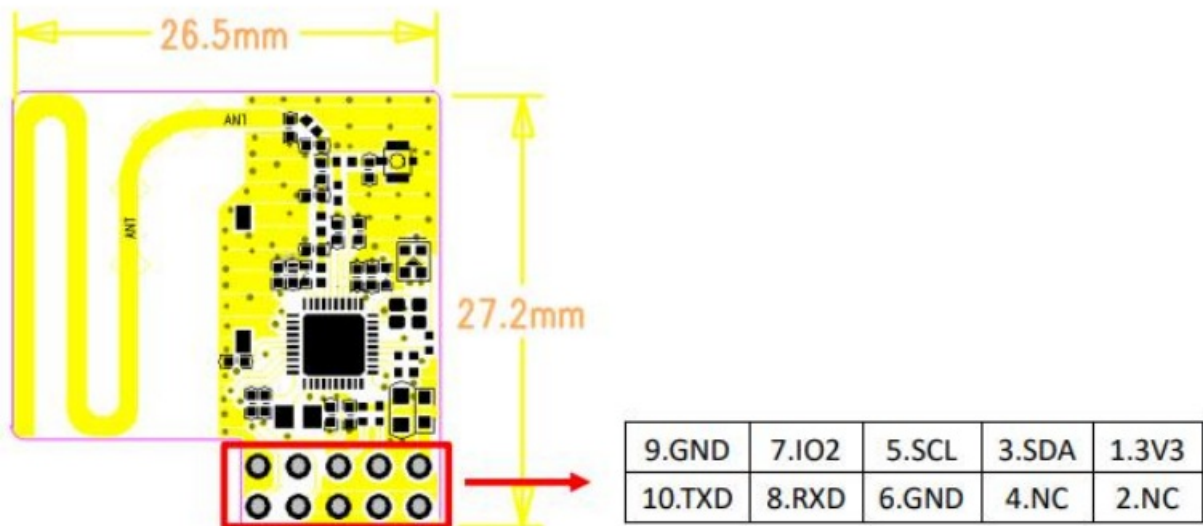

Figure 1
3. The module is installed with the corresponding interface (see Figure 1), and is one-to-one connected with the standard interface (pin 1-10) on the PI motherboard (see Figure 2).